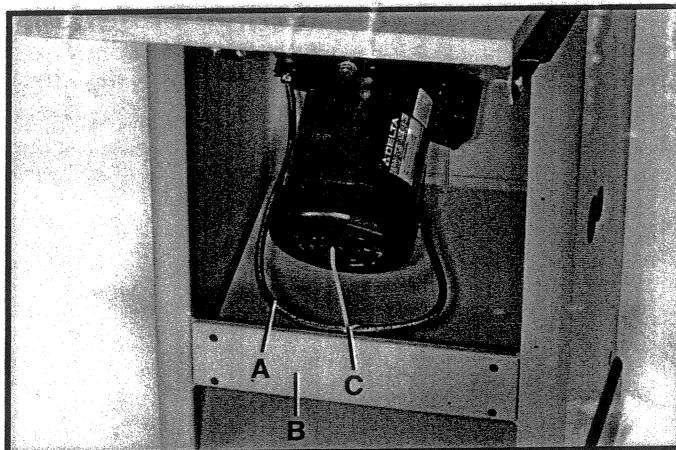

Fig. 49
3. Fasten motor cord (A) Fig. 49 to the saw frame cross member (B), using the cable tie (C) supplied with the saw. **CAUTION:** Before tightening the cable tie, make certain that cord (A) is free of any interference from the motor or saw blade at all possible positions of the motor.
4. After the cable tie is tightened, cut off excess tail of cable tie (C) Fig. 49.